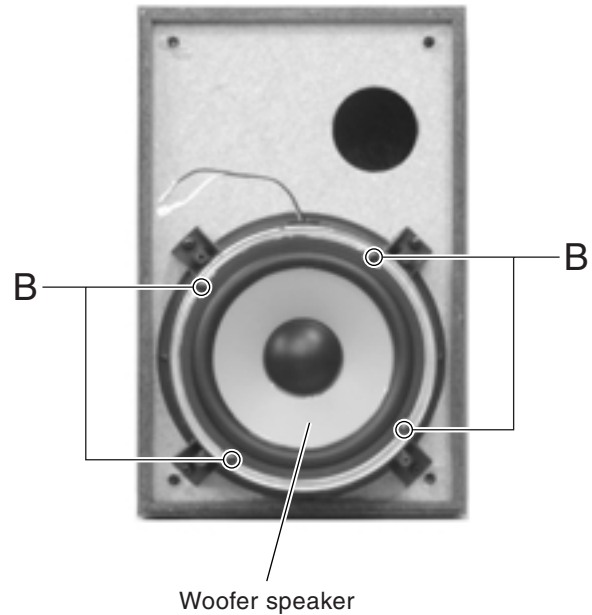

Fig.3
### ■ Removing the woofer speaker (See Fig.3)
6. Remove the screw **B** retaining the disc stopper (See Fig.3).
7. Remove the three screws **C** retaining the T.bracket (See Fig.3).
8. Remove the screw **D** retaining the clamber assembly (See Fig.3).